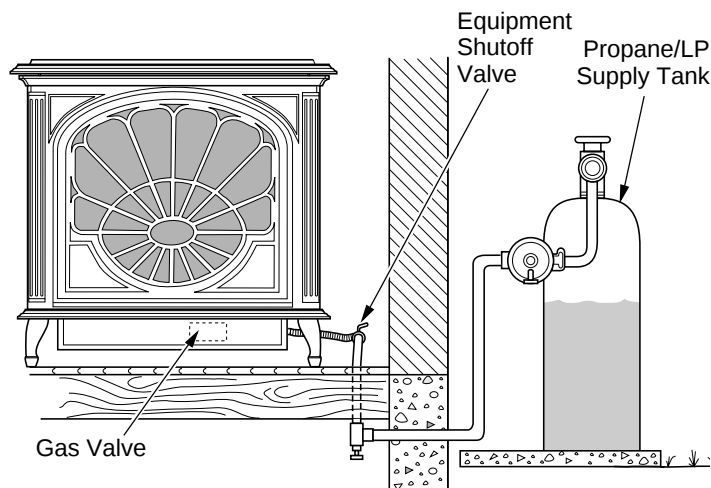
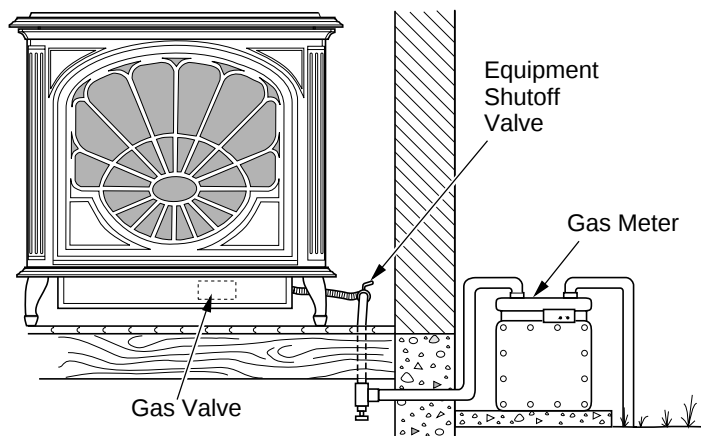

Figure 43 - Checking Gas Joints for Propane/LP Gas Burner System (Amity™ Model Shown)
Figure 44 - Checking Gas Joints for Natural Gas Burner System (Amity™ Model Shown)
3. Check all joints from propane/LP supply tank or gas meter to equipment shutoff valve (see Figure 43 for propane/LP or Figure 44 for natural). Apply noncorrosive leak test solution to all gas joints. Bubbles forming show a leak. Correct all leaks at once.
4. Check all joints from equipment shutoff valve to thermostat gas valve (see Figure 43 for propane/LP or Figure 44 for natural). Apply noncorrosive leak detection solution to all gas joints. Bubbles forming show a leak. Correct all leaks at once.